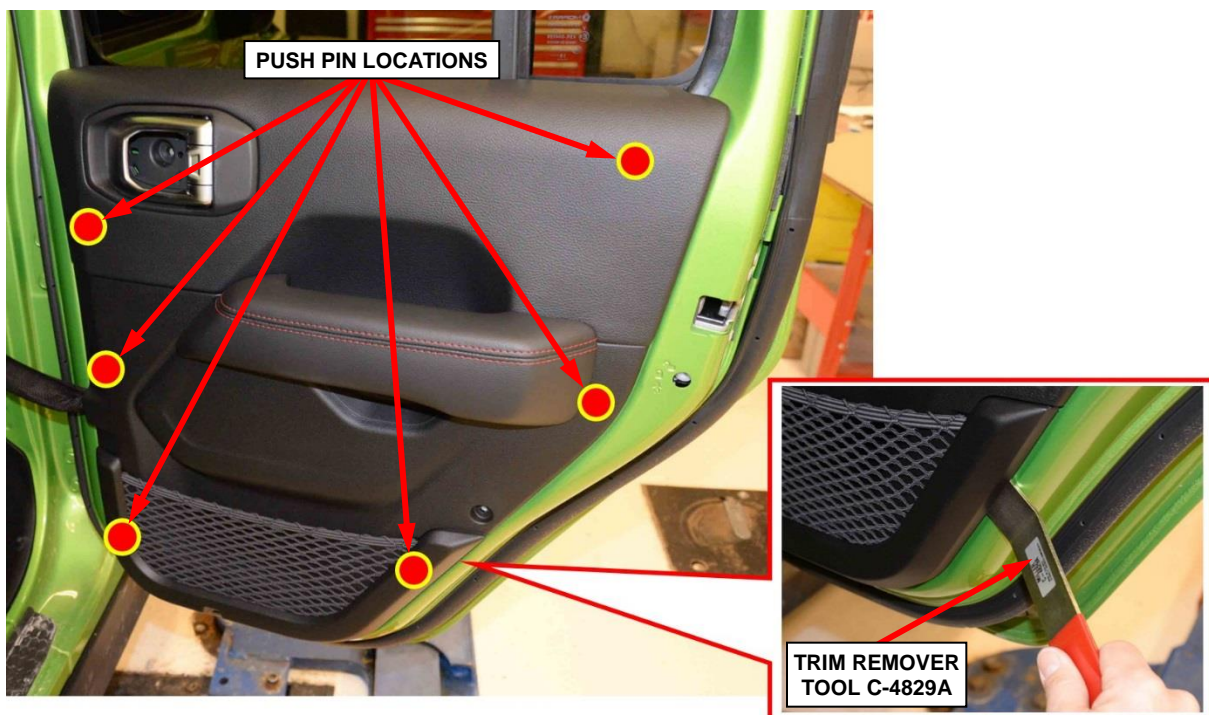

Figure 11 – Door Panel Push Pin Retainers
16. Using Trim Remover C-4829A, separate the six push pin retainers (Figure 11).